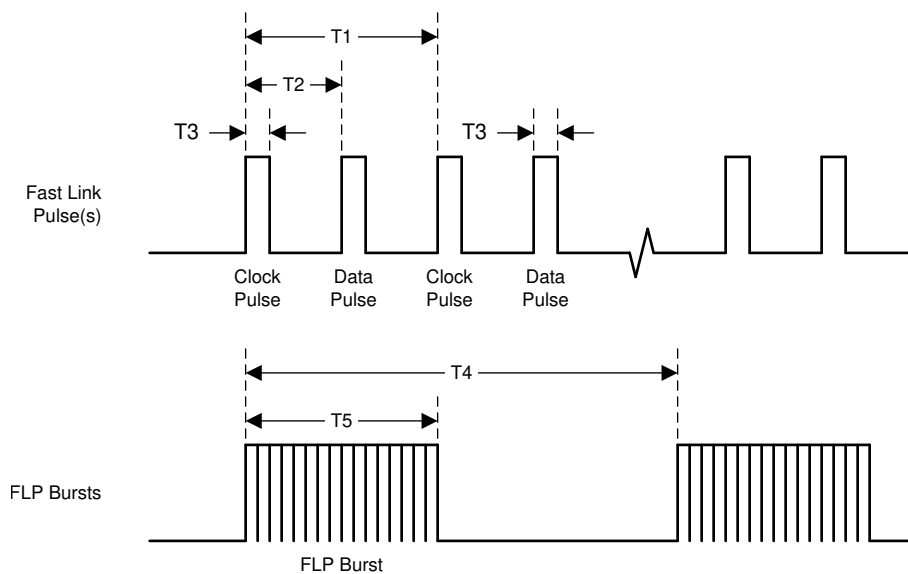

图 7-14. Fast Link Pulse Timing
- (1) Ensured by production test, characterization or design.
- (2) See 图 7-14.